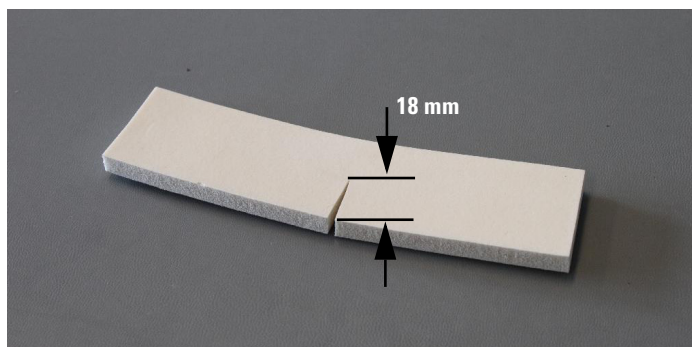
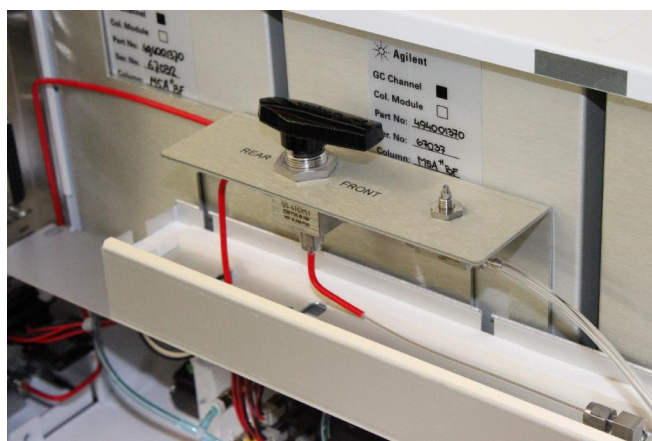
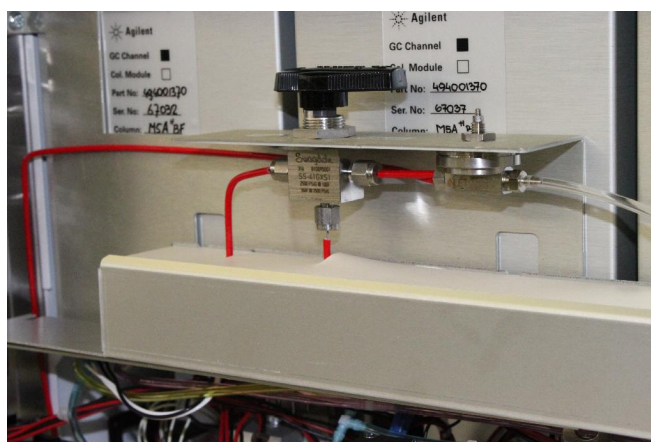

Figure 9 Upper insulation plate
Figure 10 Sample-Inlet-Box without insulation
Figure 11 Sample-Inlet-Box with insulation
- 6 Make an 18 mm incision in the upper insulation plate as seen in Figure 9 and install it in the Sample-Inlet-Box, see Figure 10 and Figure 11.